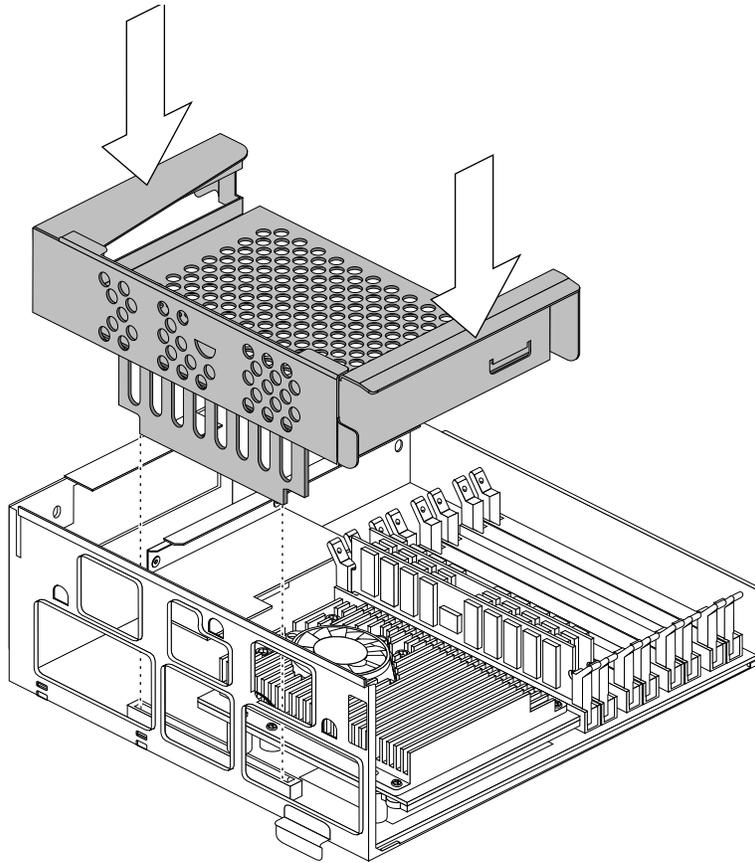

Figure 1-21 Replacing the PCI Tray in the System Module
1. Install the PCI tray (Figure 1-21).